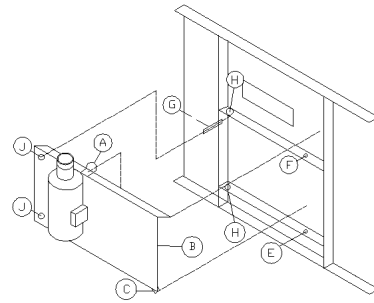
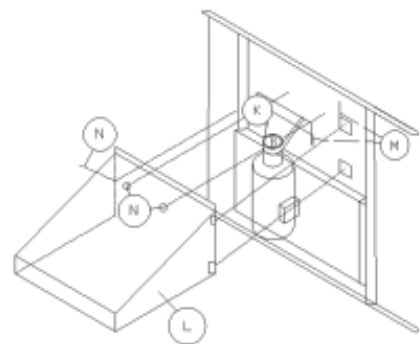

Figure 12
Figure 14
- (1) Study figure 12 before installing the motor base on the unit.
- (2) Insert the lifting device into "U" bolt A on motor base B.
- (3) Lift the motor base and insert the pivot pin C down into hole E and pivot pin F into hole D.
- (4) Install washer and nut (do not over tighten) on pivot pins. Install jam nut on pivot pin C.
- (5) Insert "J" bolts G into holes H. Install flat washers and cotter pins. Place nuts and washers on threaded portion of "J" bolts. These will be behind the motor base installed in the next step.
- (6) Insert "J" bolts into holes J in the motor base. Install flat washers, lock washer and nuts. Remove lifting device from the "U" bolt on the motor base. Position motor base toward casing of unit for belt installation.
- (7) Install Powerband belt K (Figure 14) around fan sheave and motor sheave. Tighten belt by adjusting nuts on "J" bolts. Do not over tighten the belts. The center of the belt should deflect approximately 3/4" with moderate hand pressure.
- (9) To install Motor Guard L, match up hinges and install hinge pins M. (See Figure 14.)
- (10) Close Motor Guard and install (2) wing bolts N